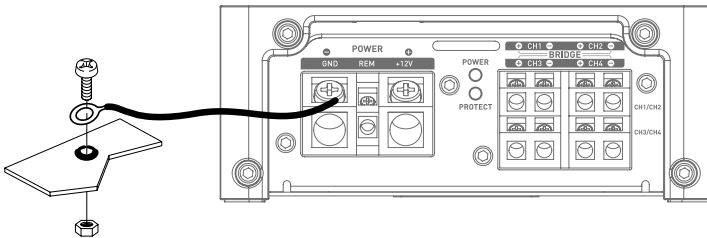

fig. 2
- 10 - Prepare the chassis ground (earth) by removing all traces of paint from the metal surface, thus ensuring a good ground (earth) contact. Ground (earth) connections should be as short as possible and **ALWAYS** connected to metal welded to the vehicle bodywork or chassis (**Fig. 2**). The grounding (earthing) point usually chosen is the one used to connect the negative terminal of the battery to the vehicle chassis.
**3.3.2** – Locate the negative (-) power cable. This cable should be as short as possible and ideally should not exceed 1 meter in length, in order to ensure an optimal connection between the amplifier and the vehicle chassis. The cable and its gauge must be in accordance with the table in 3.1. Locate an appropriate ground (earth) point, then sand it to remove all traces of paint or other finish, thus optimising the quality of the connection. Drill through the sheet metal you have previously sanded, making a hole to match the bolt you have chosen, ensuring you are well clear of all cable routes, reservoirs or tanks or other sensitive vehicle parts. Solder and insulate (using heat shrink sleeving) the earth cable to the FPX amplifier earth connector supplied (**Fig. 2**).